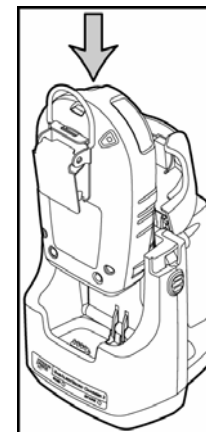
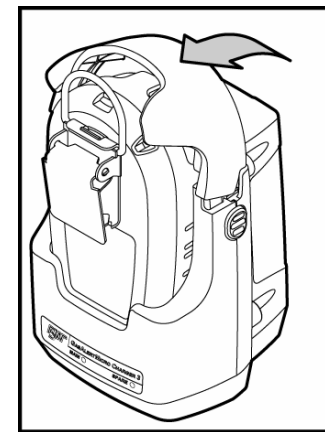

Figure 4. Inserting the Detector Into the Charger
Figure 5. Closing the Charger Lid
4. Insert the detector into the charger and close the charger lid. Refer to Figure 4 and Figure 5.